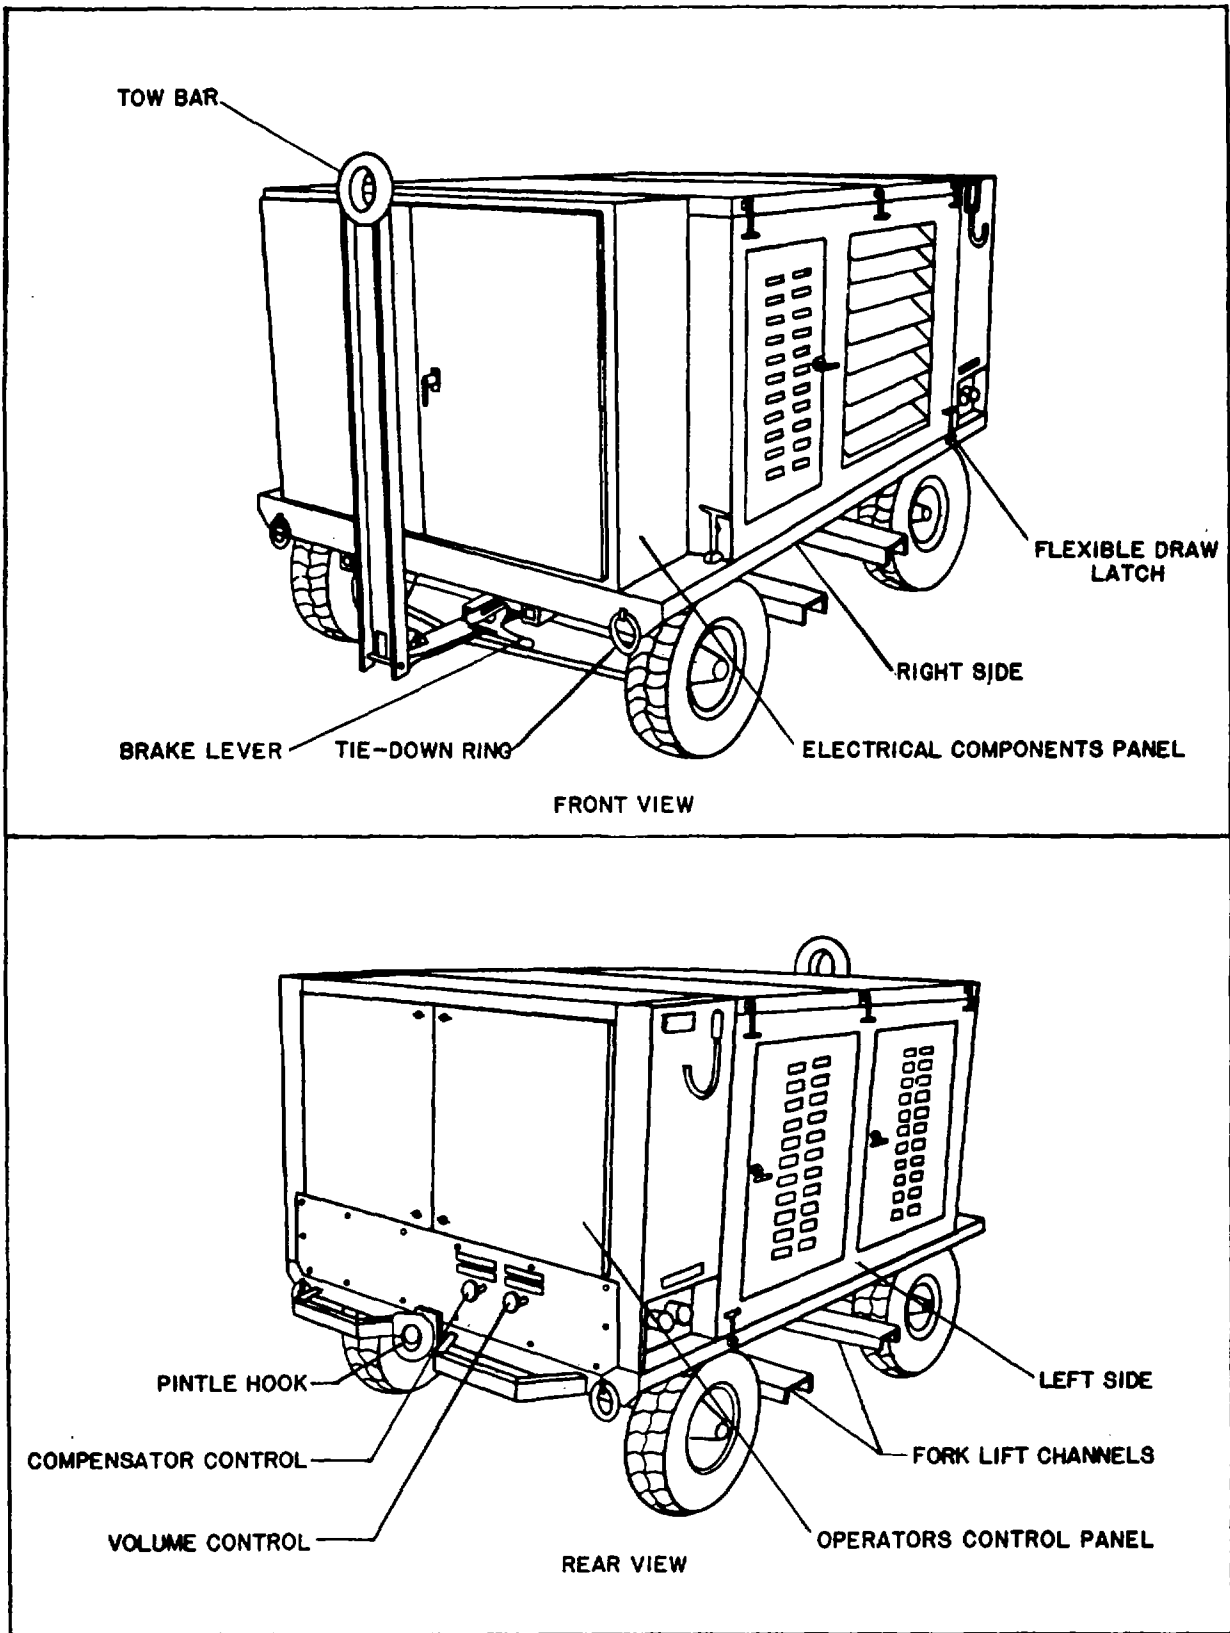

FIGURE 1-1. AIRCRAFT HYDRAULIC SYSTEM TEST STAND TRAILER MOUNTED TYPE MK-1
1-8. Physical description. The test stand, as illustrated in figure 1-1 incorporates one hydraulic piping system, high pressure pump driven by a 60 horsepower, 230/460 volt, 3 phase motor.
Trailer and running gear assembly. The trailer frame is of welded steel construction. The trailer rolls easily on four steel wheels equipped with 6.00/6.90-9, 6 ply tires. Individual leaf springs for each wheel give the stand good cushioning against road shocks and rough terrain, protecting the components of the test stand. A hinged towbar (figure 1-1) permits ease of positioning of the test stand and towing. The front wheel steering is the conventional type with steering knuckles, tie rods, and king pins. A hand lever (figure 1-1) sets the rear wheel brakes, holding the test stand in a fixed position during test operation or in parking on a grade. Two tiedown rings (figure 1-1) are provided on both the front and rear of the trailer frame to permit tie down of the test stand for storage or shipment. A pintle hook is provided for coupling and towing the vehicle (figure 1-1).
**Electrical components panel.** The circuit breaker and starter for the electric pump motor is located in the electrical components panel (figure 1-1) at the front of the unit as are the circuit breakers and starters for the fill pump and cooling fan.
**Main hydraulic pump.** The main hydraulic pump (figure 1-2) supplies fluid at high pressure for testing of a high pressure pump section and integral boost pump section. The pump contains a manual compensator control (figure 1-1) for varying the output pressure and volume control (figure 1-1) to regulate the output volume by changing the stroke length of the pumping pistons. Change in piston stroke length is controlled by system pressure so that when the pump is operating at a pressure less than the maximum setting of the compensator
**High pressure filter.** A filter (figure 1-2) is located in the high pressure output line. A micron filter element gives the pressurized fluid a final cleaning before outlet to the aircraft. A warning light displayed on the operator's control panel (figure 1-1) indicates a high differential pressure condition between the filter inlet and outlet should the filter elements become clogged with sediment removed from the hydraulic fluid.